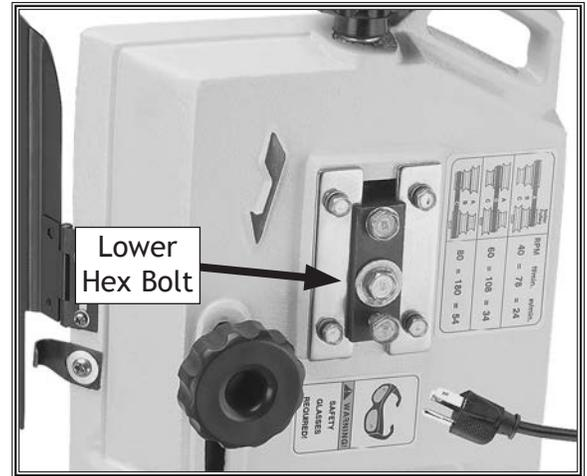

Figure 44. Blade wheel tilting lower hex bolt.
4. Loosen, but do not remove lower hex bolt in blade wheel tilting mechanism shown in **Figure 44**.